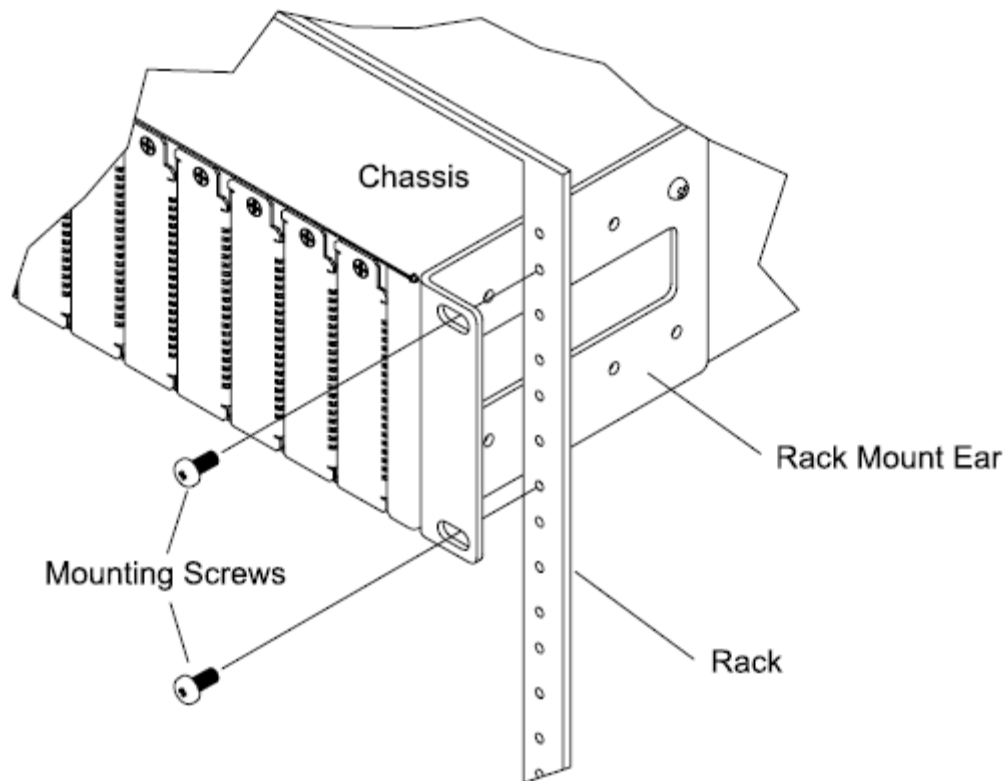

Figure 8: Rack Mounting
1. Locate four (4) mounting screws (not provided) and optional clip-nuts (not provided) for each chassis to be installed.
2. Carefully position and align the chassis to the mounting holes in the rack, as shown in Figure 8 below.
3. Install two (2) screws through the right bracket into the right mounting rail and two (2) screws through the left bracket into the left mounting rail, using the clip nuts (not provided) to secure the chassis to the rack.